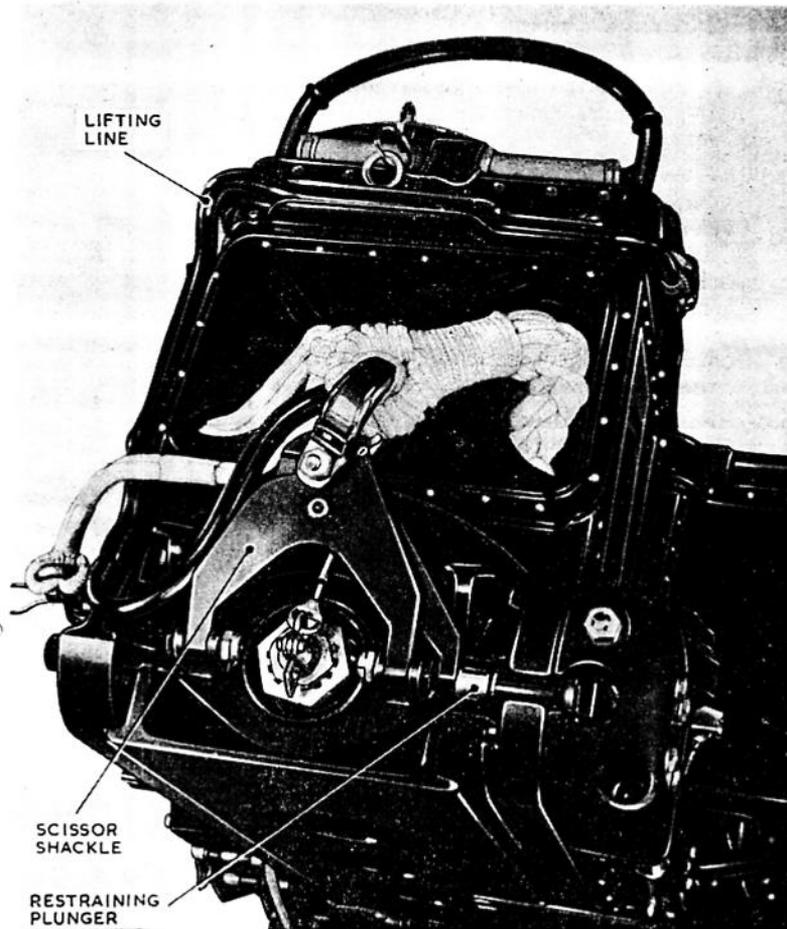

Fig. 2. Fitting the lifting lines
9. Commencing at the front of the drogue container, press the lifting lines down into their clips, using thumb pressure, until the final result is similar to that shown in fig. 2.